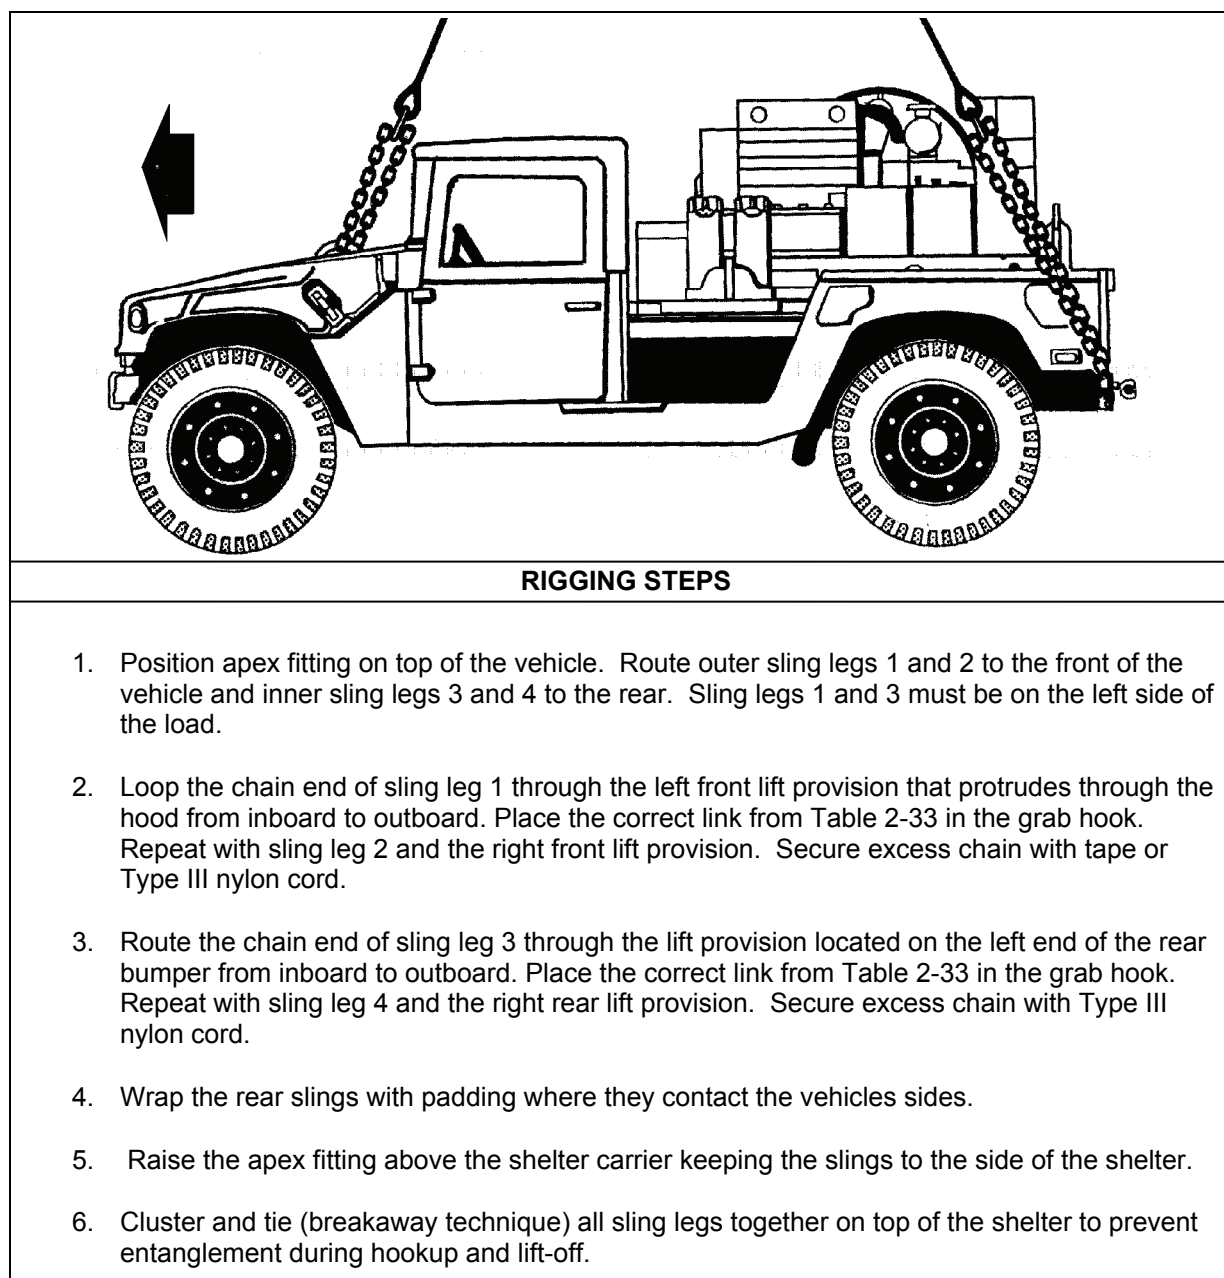

Figure 2-32. M1037 with AN/TPQ-36 Firefinder Generator
- **Rigging.** Rig the load according to the steps in Figure 2-32.